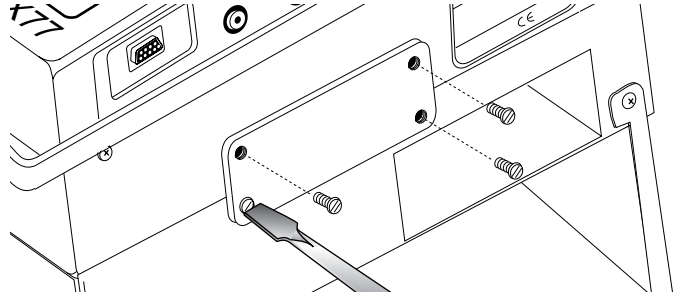

Figure 3
5.2 Remove the eight screws (four per side) securing the side plates which attach the power supply to the base of splicer with a slotted screwdriver (Figure 3).